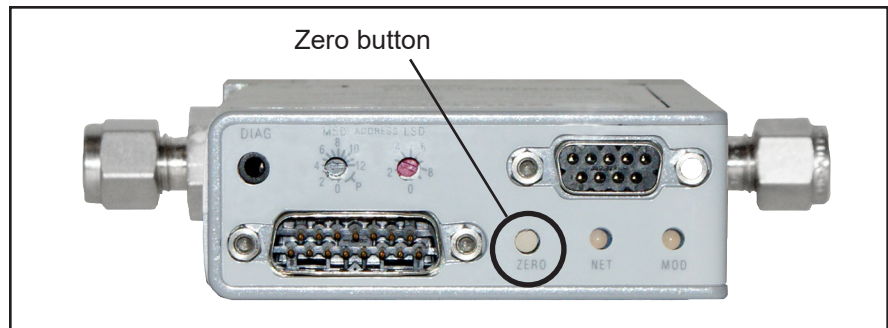

Figure 2-2 Zero Button Accessible at Top of Device
2. Press and hold down the Zero button, shown in Figure 2-2, for a minimum of 5 seconds.